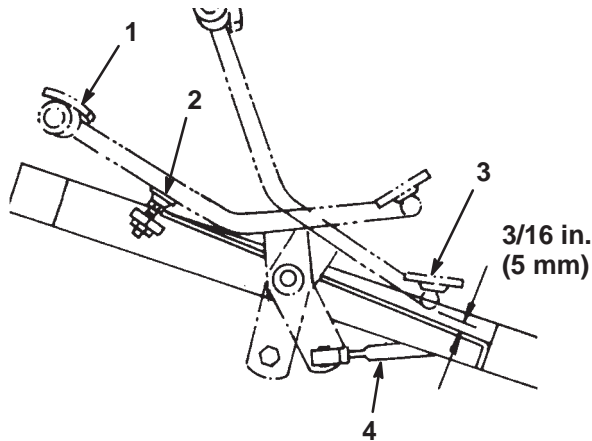

Figure 47
1. Press the traction pedal fully forward until the No. 5 section valve spool is completely pulled out. The pedal should contact the pedal stop (Fig. 47).
2. Check the distance between the bottom of the pedal and footrest as shown in Figure 47. The distance should be approximately 3/16 in. (5 mm). If the distance is greater or less than 3/16 in. (5 mm), an adjustment to the traction control rod is required. Proceed as follows:
- A. Remove the jam nut and ball joint securing the control rod (Fig. 47) to the traction shaft pivot.